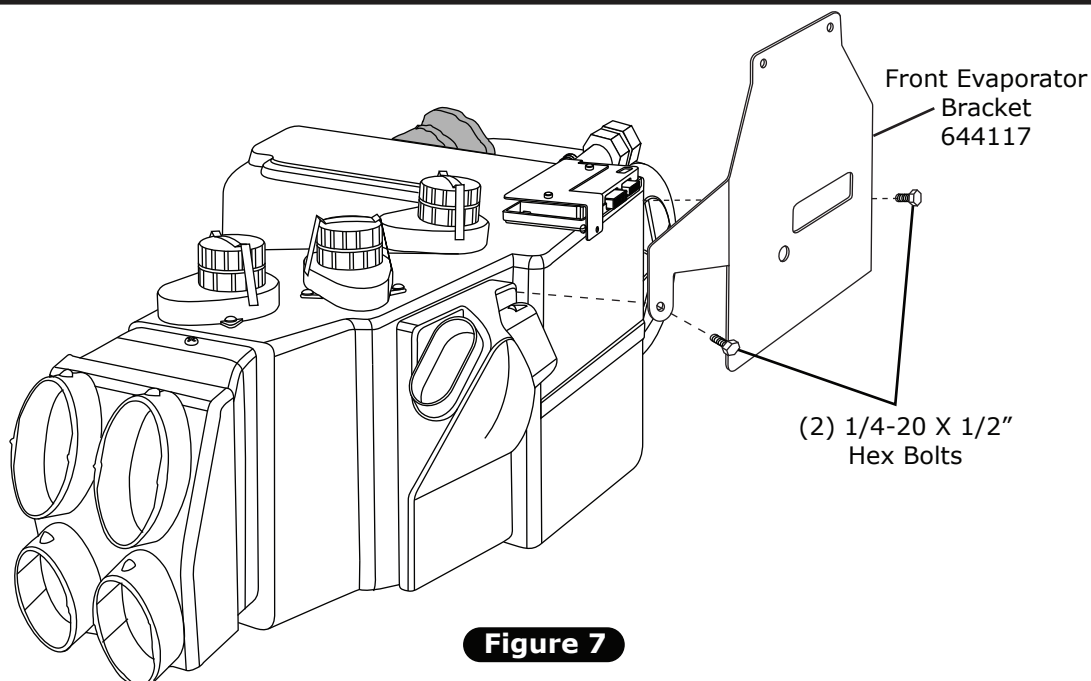

Figure 7
2. Install front mounting bracket onto evaporator using (2) 1/4-20 x 1/2" hex bolts, and tighten (See Figure 7, below).